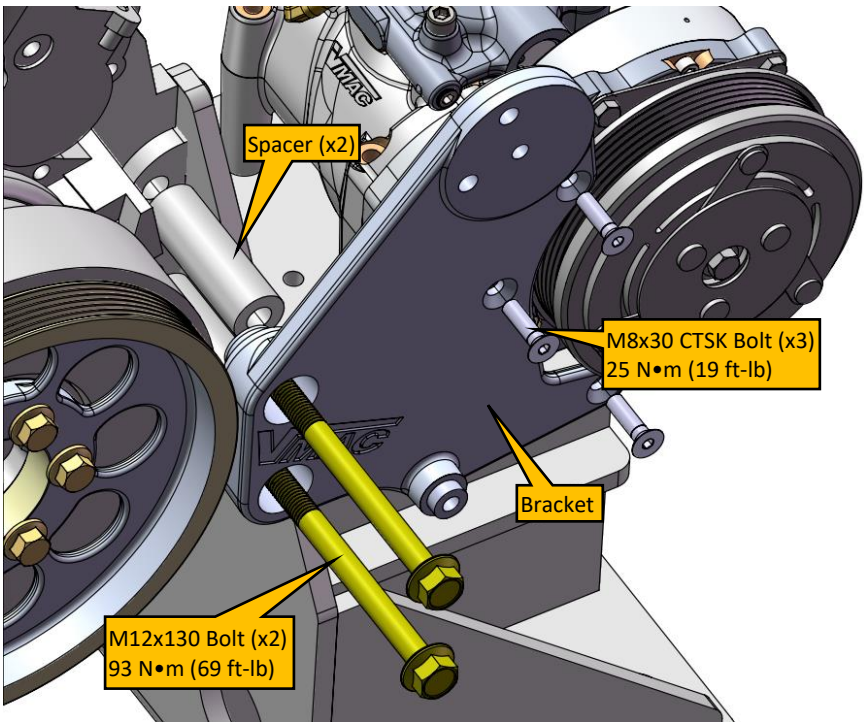

Figure 3: Bracket Mounting
- Apply blue Loctite and install the three M8x30 flathead countersink bolts through the bracket onto the compressor as shown in Figure 3. Leave the bolts a little loose for now to place the spacers in behind the bracket.
- Place the spacers between the bracket and the engine, apply Loctite and install the two M12x130 bolts through the bracket and spacers onto the engine as shown in Figure 3. Snug bolts up finger tight.